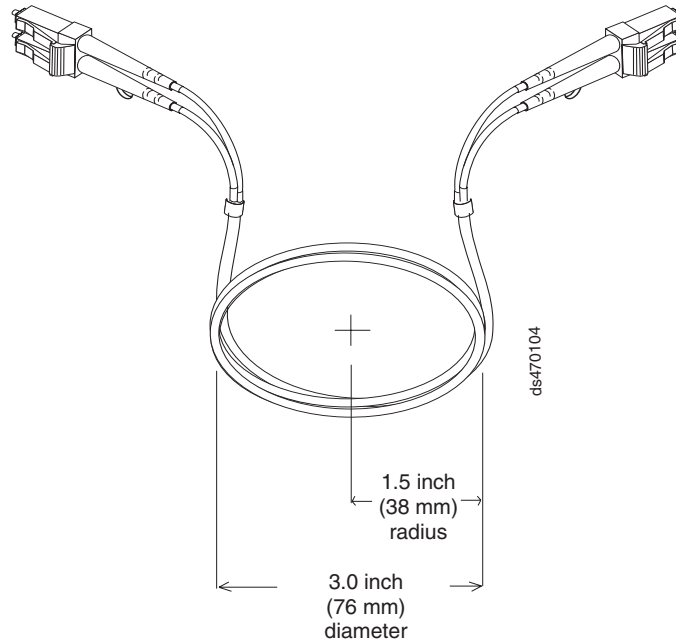

Figure 19. Recommended bending and looping specifications for fibre-optic cables
- When storing excess or unused fibre-optic cables, do not bend the cables to a diameter of less than 76 mm (3 in.), or a radius less than 38 mm (1.5 in.) or wrap them around themselves. See Figure 19 on page 37.